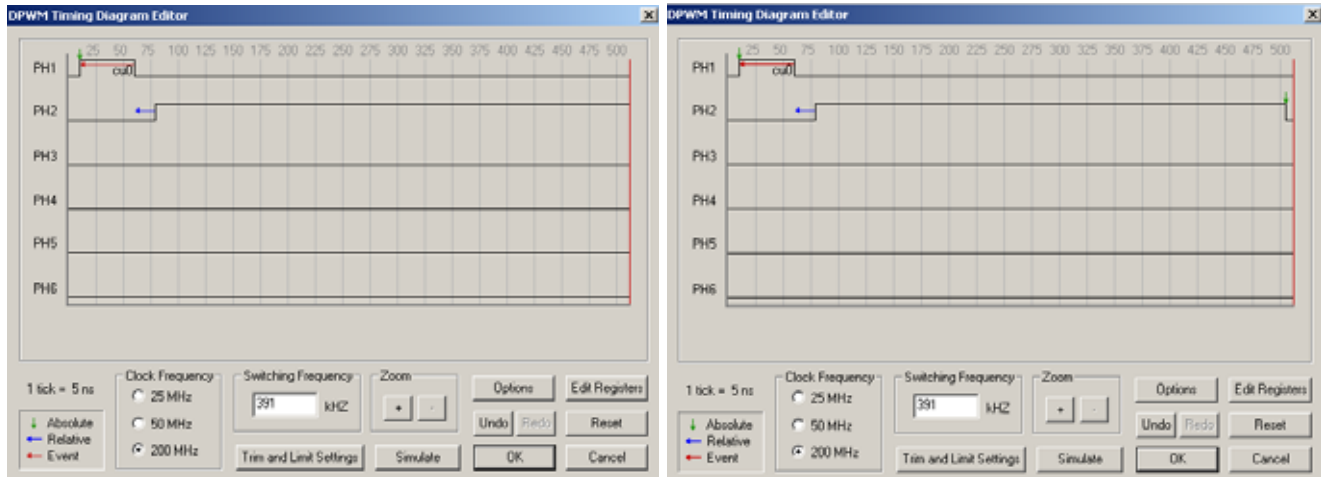

Figure 10. DPWM Timing Diagram Editor—Phase 2
1. Now, create the timing for Phase 2. For Phase 2, the goal is to create a relative rising edge relative to the falling edge of Phase 1 and an absolute falling edge on Phase 2 at time tick 505. To create the relative rising edge, hold the mouse above the Phase 2 zero timing line (default) at time tick 100. Then, either double-click with the left mouse button or right-click at that point and select **Relative Edge**. Next, select the edge to reference by clicking on Phase 1's falling edge. A relative edge at approximately time tick 90 will be created (see Figure 10).
2. To finish the timing for Phase 2, create an absolute falling at time tick 505. To create this edge, hold the mouse above the Phase 2 timing line at time tick 505. Then, either double-click with the left mouse button or right-click at that point and select **Absolute Edge**. An absolute edge at time tick 505 will be created (see Figure 10).